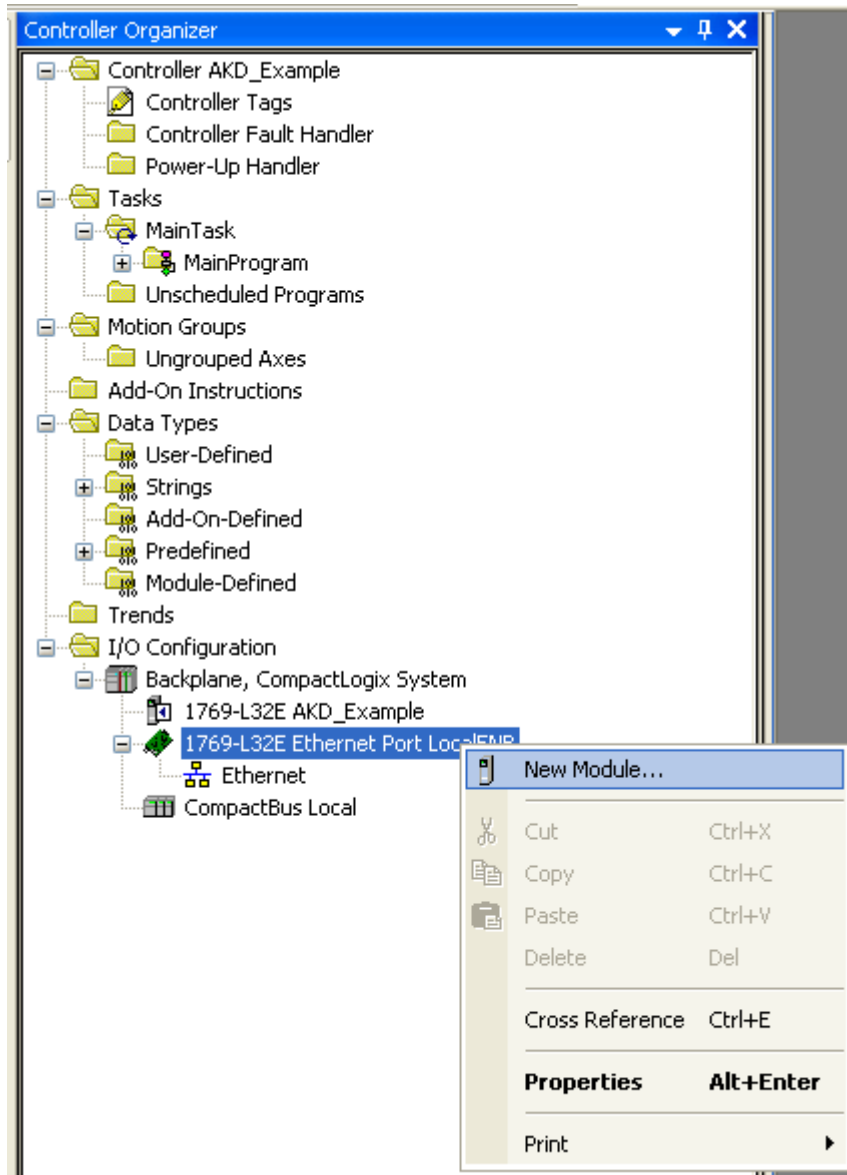

Figure 5-1: Adding New Module
2. Right click on the Ethernet port in the I/O Configuration and select “New Module...” (Figure 5-1: Adding New Module)